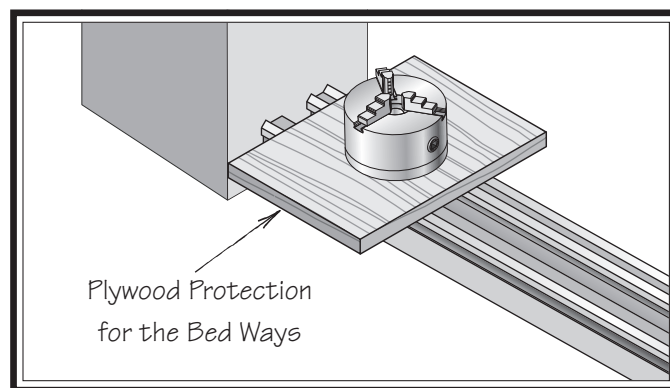

Figure 18. Plywood used to protect bed ways.
2. Place a sturdy piece of plywood under the spindle to protect the bed ways during the installation process (see **Figure 18**).